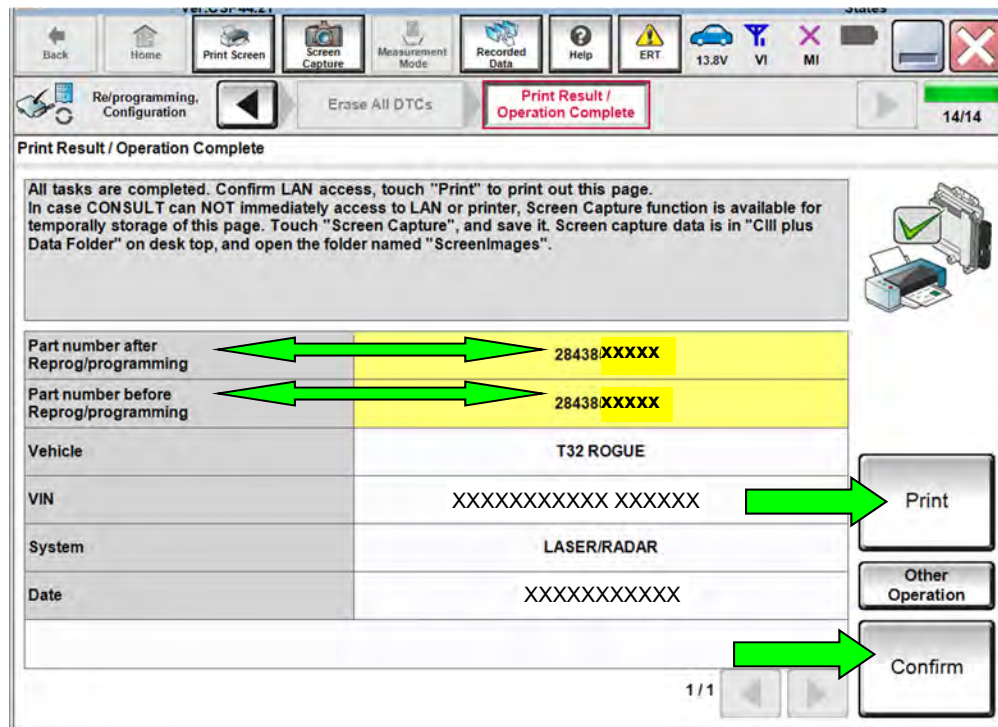

Figure 24
39. Print a copy of this screen (Figure 24) and attach it to the repair order for warranty documentation.